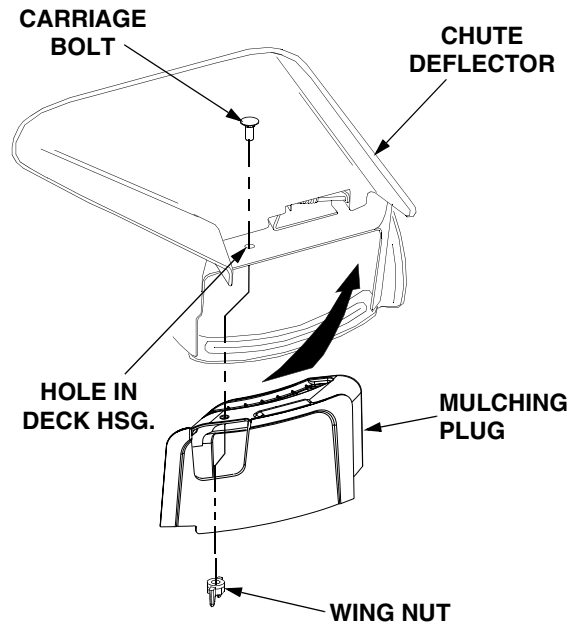

Figure 58
2. Lift the chute deflector upward and insert the mulching plug into the discharge opening of the deck (Refer to Figure 58).
3. Position the mulching plug so that its top hole aligns with the hole in the top of the deck housing. Install the carriage bolt through both surfaces and secure with the wing nut (See Figure 58).